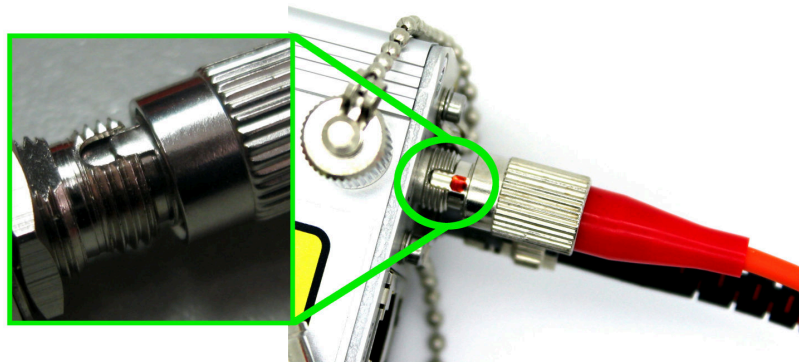

Figure 19: FC fiber connector alignment
5. Plug in the FC laser supply connector (red bend protection) and tighten its nut. Make sure that the connectors key slides into the corresponding notch, Figure 19 for the correct alignment.